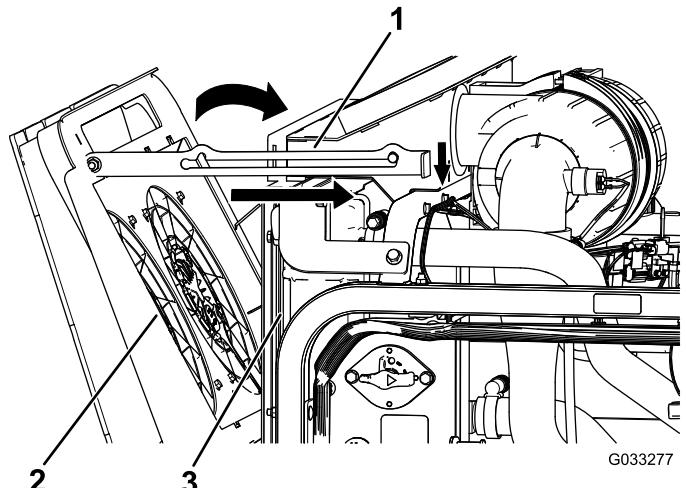

Figure 108
4. Pivot the engine-cooling fans forward and lock the prop rod into the notch (Figure 108).